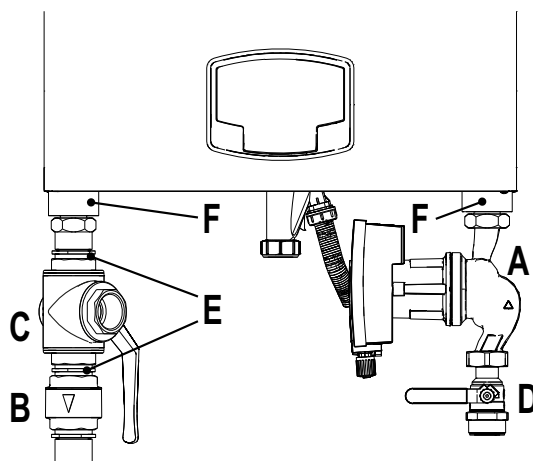

fig. 34- Boiler with installed kits
code **042070X0** - HIGH EFFICIENCY CIRCULATING PUMP KIT- 7m. (A - fig. 34)
code **042071X0** - HIGH EFFICIENCY CIRCULATING PUMP KIT- 10m. (A - fig. 34)
- 1 **NON-RETURN VALVE - Female 1"1/2** (B - fig. 34)
- 2 **3-Way FAUCET - Female 1"1/2** (C - fig. 34)
- 3 **FAUCET Male/Female 1"1/2** (D - fig. 34)
- 4 **CONNECTION NIPPLE 1"1/2** (E - fig. 34)
- 5 **Flow and Return connection pipes 1"1/2** (F - fig. 34)